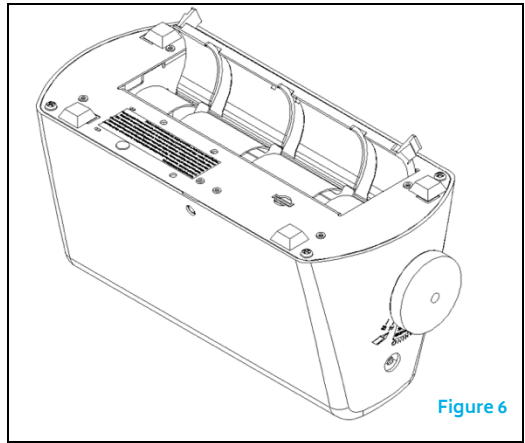

Figure 6
4. Depending on the severity of the jam, it may be necessary to gain access to the jammed paper through the dejamming door, located on the bottom of the folder (Figure 6). To open the dejamming door, carefully apply finger pressure to the outside of the dejamming door locking tabs, which will cause the tabs to bend inward, releasing the door so it can be opened.
2. With the folder in an upright position, using a Philips screwdriver, remove the screw located in the center of the paper stop adjustment knob and remove the knob (Figure 6).